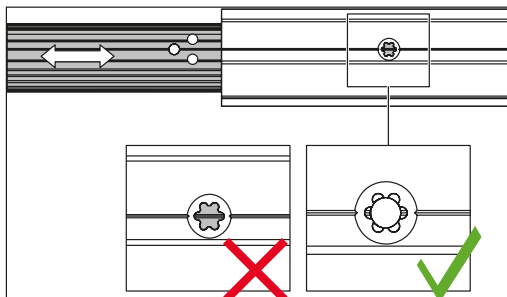

Fig. 11 Slide the lining profile along
- Insert the lining profile into the counter profile in such a way that the pre-drilled holes of the lining profile and the track are lined up with each other (Fig. 11).